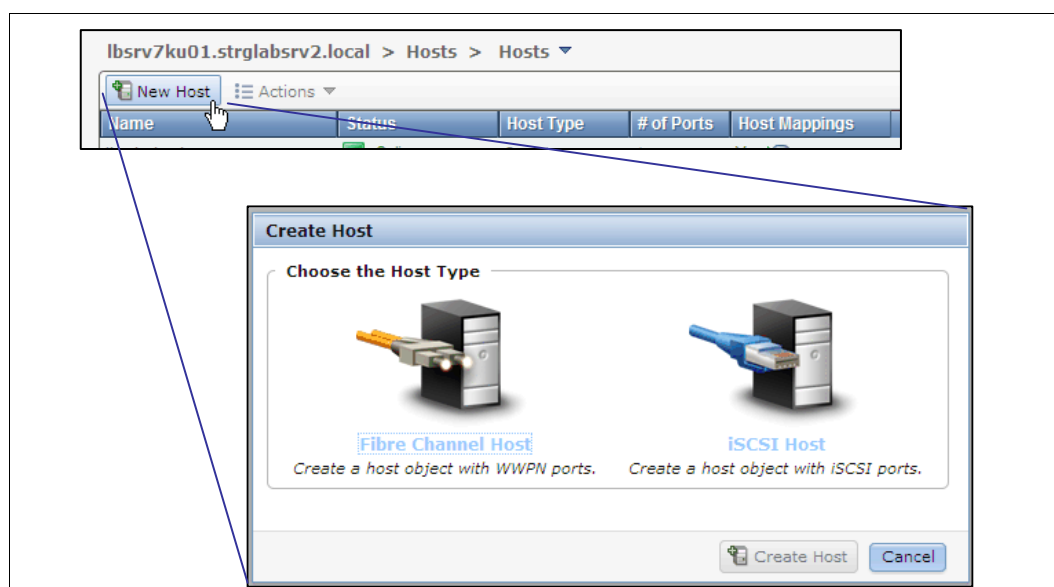

Figure 10-17 Create Host window
2. Click **Hosts** to open the Hosts window. Click **New Host** to open the Create Host window (Figure 10-17).